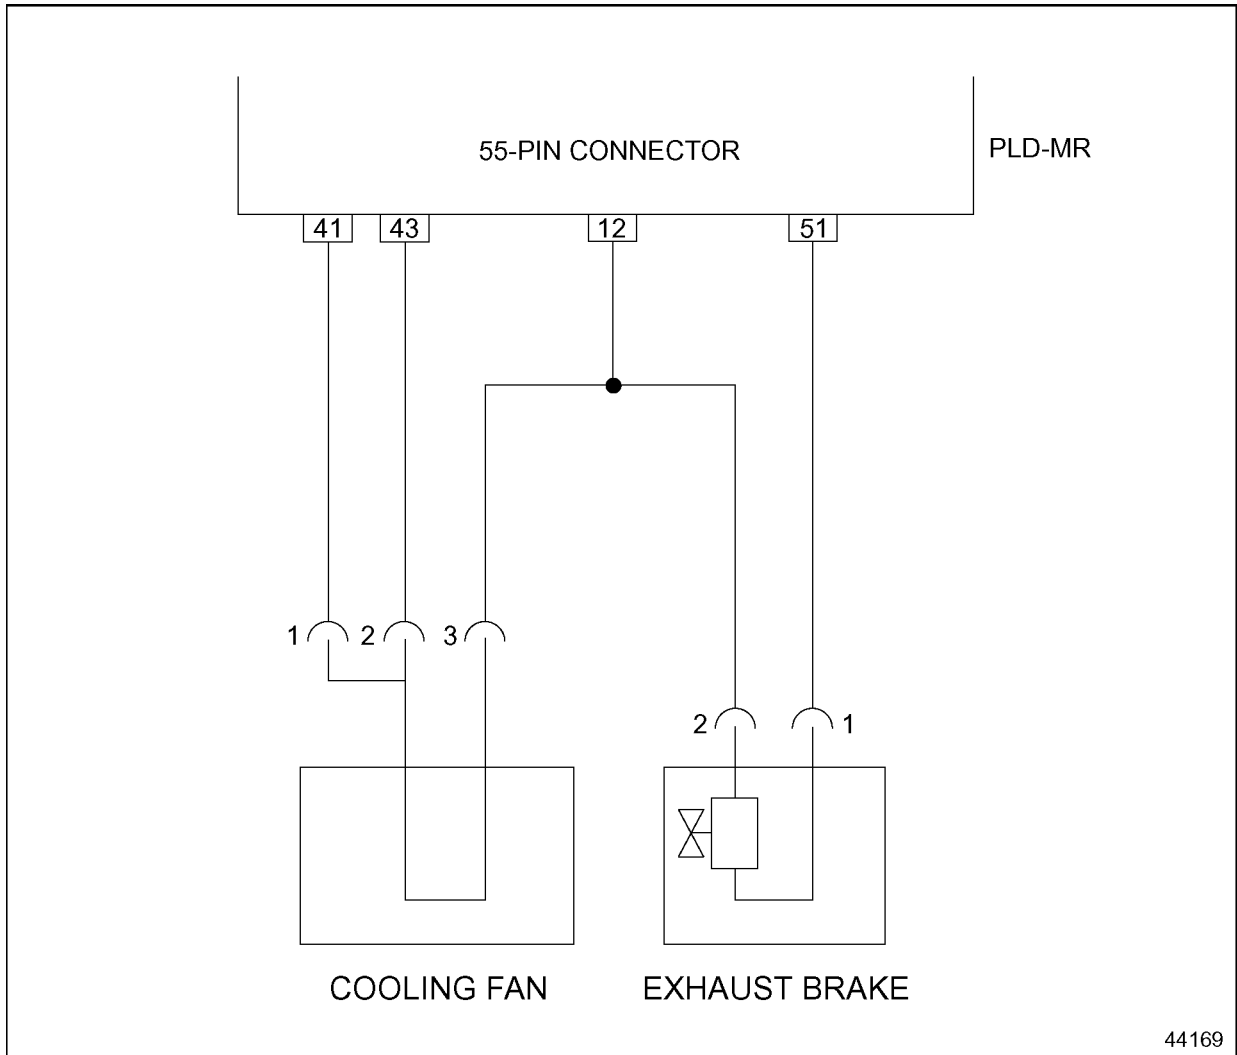

Figure 22-3 Location of Fan Control Wires
2. Measure the resistance between wires 41 and 12 on the 55-pin wiring harness connector. See Figure 22-3.
- 2. Measure the resistance between wires 41 and 12 on the fan electrical connector. See Figure 22-3.
- 3. Measure the resistance between wires 43 and 12 on the fan electrical connector. See Figure 22-3.
- 4. Measure the resistance between wire 41 on the fan electrical connector and vehicle ground. See Figure 22-3.
- 5. Measure the resistance between wire 43 on the fan electrical connector and vehicle ground. See Figure 22-3.